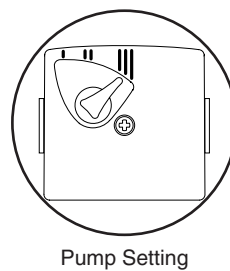

Fig. 59
12.12 Pump - Complete (Figs. 59 & 60)